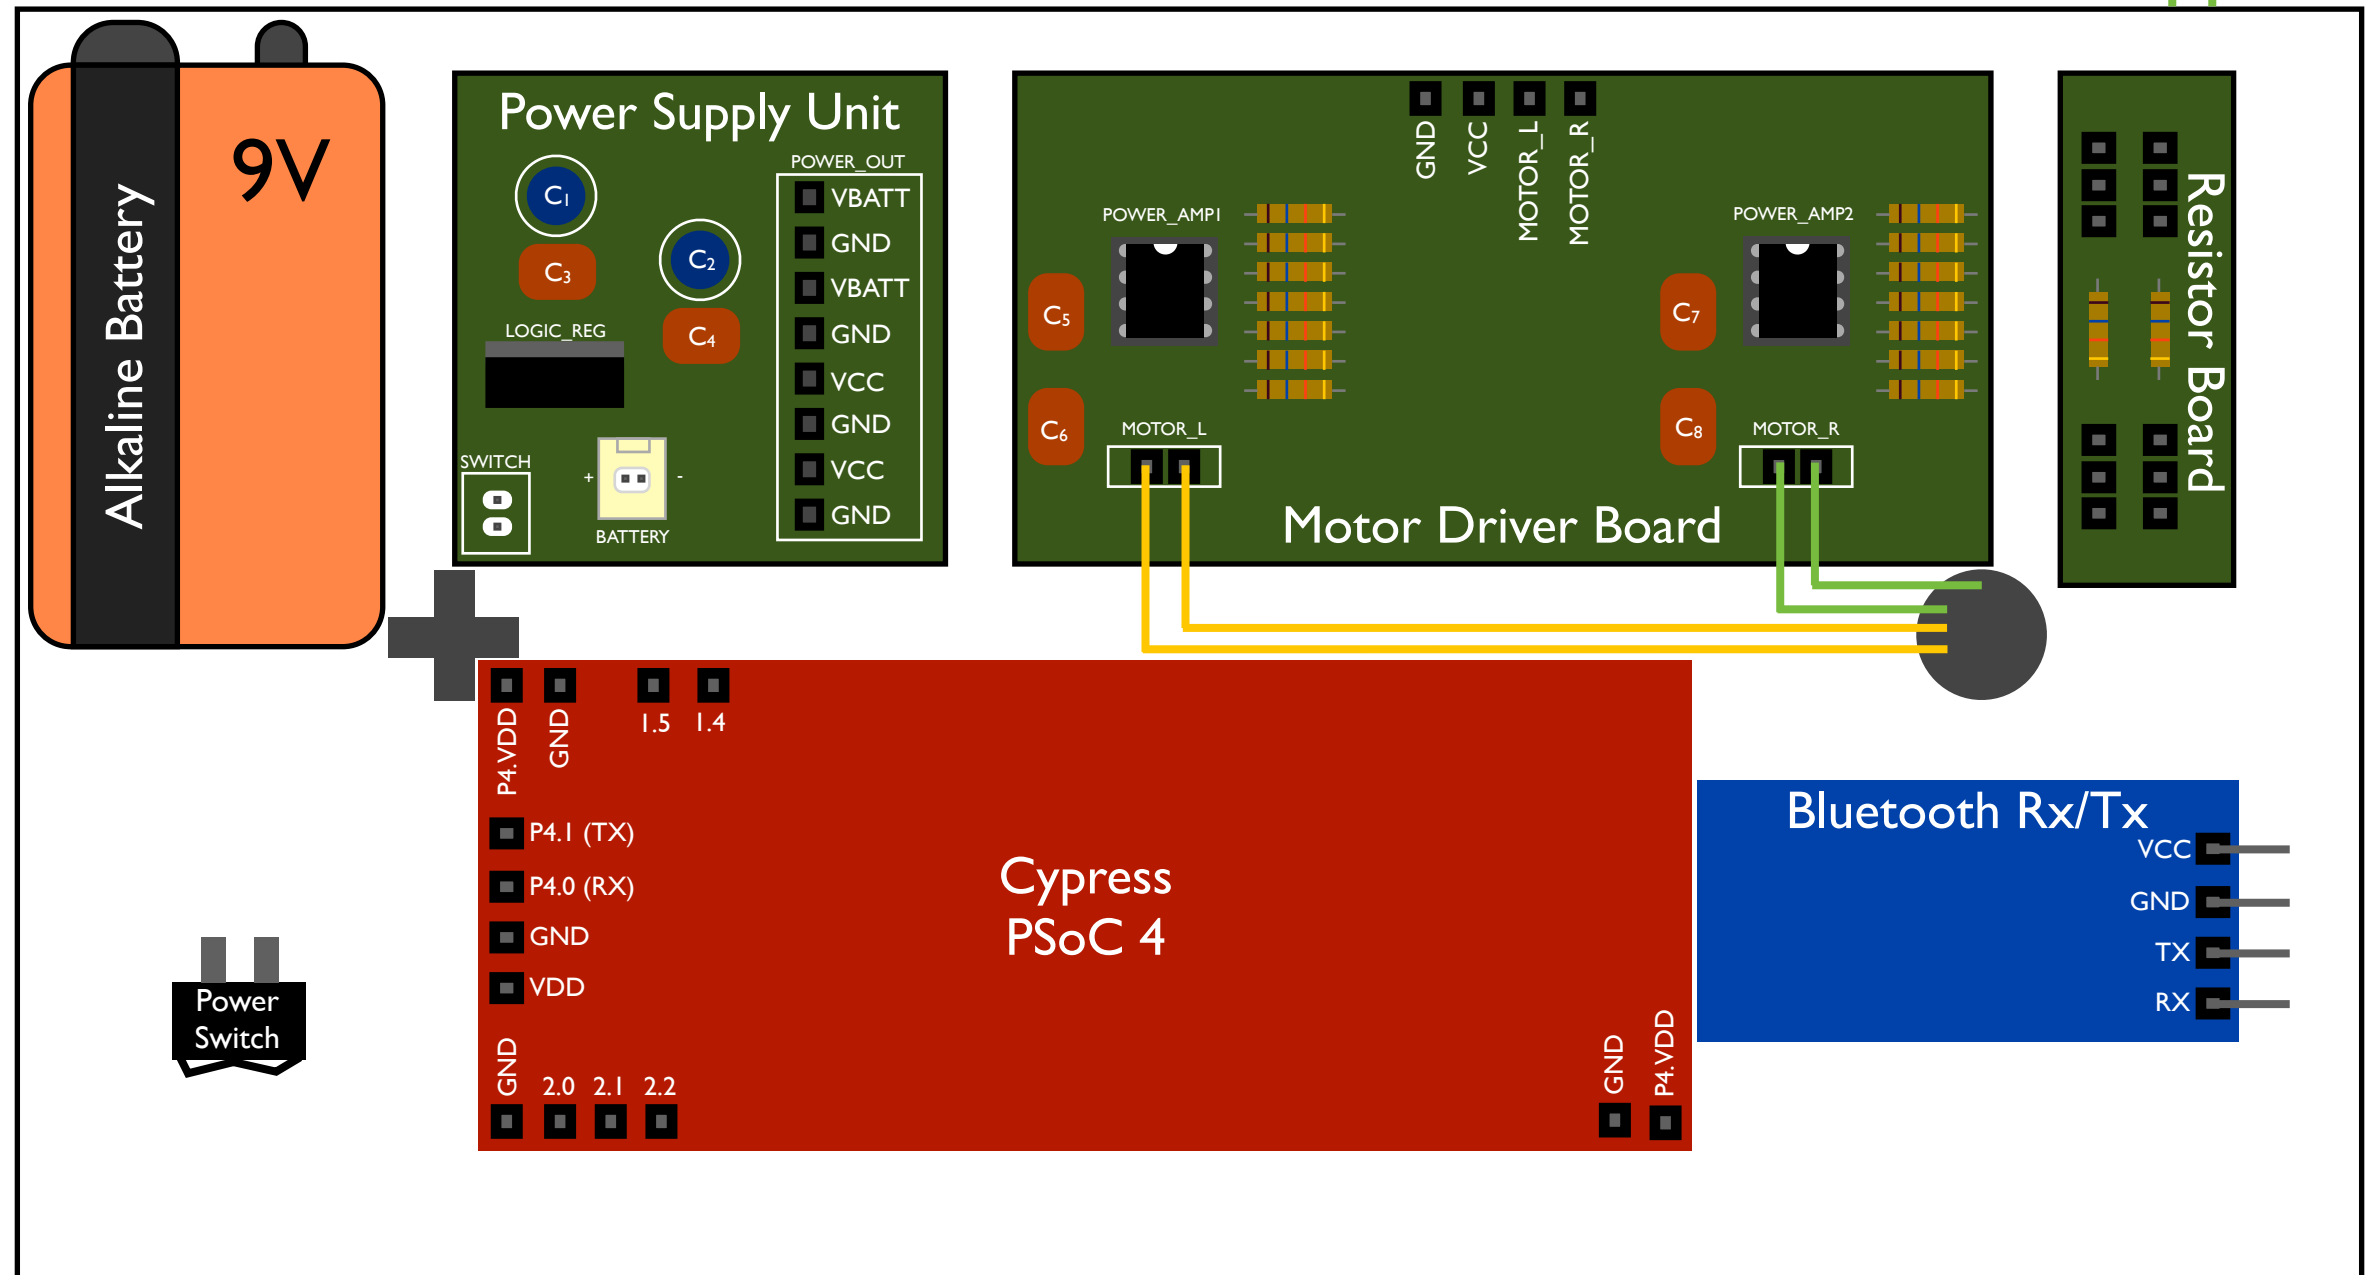

Figure 8. Connecting motors to motor driver board using green and yellow jumper wires
8. Connect Motors to Motor Driver Board (Figure 8)